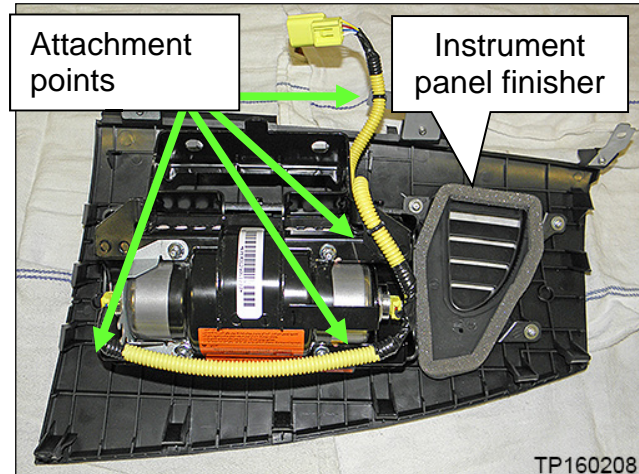

Figure 51
51. Route and attach the harness to the harness guides, and attach the harness clips as shown in Figure 51.